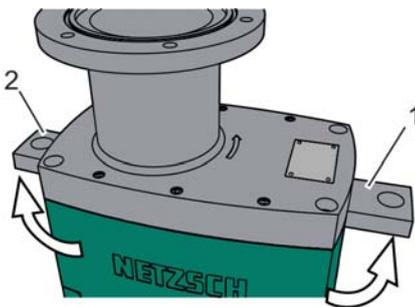

Fig. 70: Folding out the transport eyes, example
2. ➤ Fold out the transport eyes (Fig. 70/1, 2) at the sides.